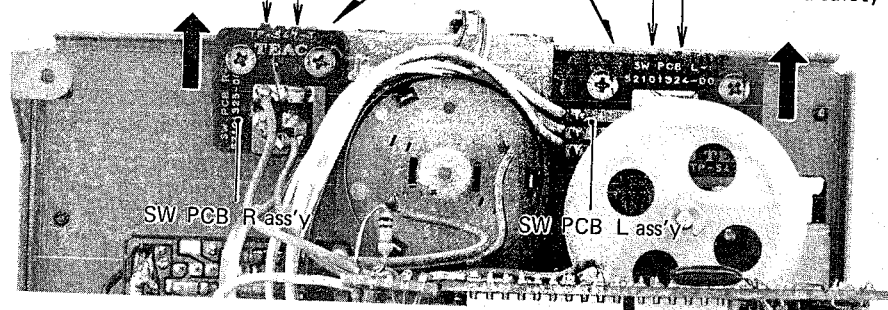

Fig. 4-4
1. SW PCB L ass'y* 又はSW PCB R ass'y* を再取付の場合は、できるだけ上方(図の矢印方向)に取付ける。取付後、リーフ・スイッチに変形がないこと(図4-4のA)を確認してから次項以降のチェックをする。
1. When remounting SW PCB L ass'y* or SW PCB R ass'y* is required, push it (them) as far upward (as shown by the arrows) as possible. Afterwards, check that each of PCB-mounted leaf switch shape is normal (Fig. 4-4's A), then proceed to the next steps.